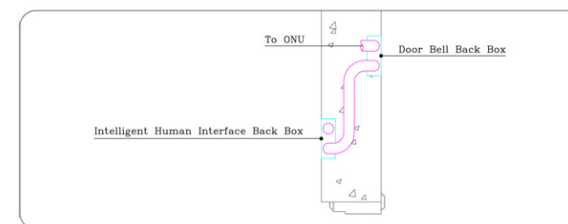

Figure1.3.9: Connection between the Smart Home Keypad and the Doorbell
- 1 No. 20mm conduit with Cat.6 cable should be provided between the doorbell switch and the nearest smart home keypad as shown in Figure1.3.9.